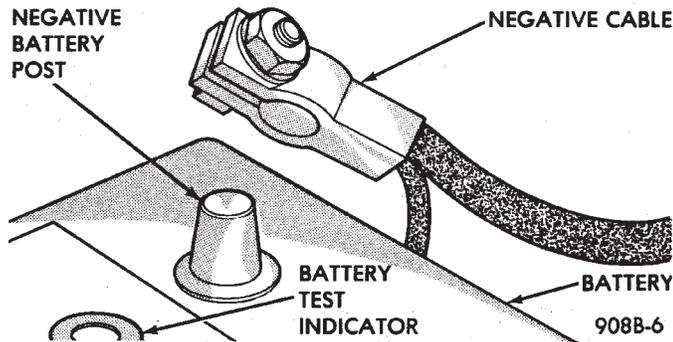

Fig. 1 Remove or Install Battery Cable
(1) Disconnect battery negative cable (Fig. 1).
(1) Disconnect NEGATIVE battery cable (Fig. 1).
(2) Raise vehicle.